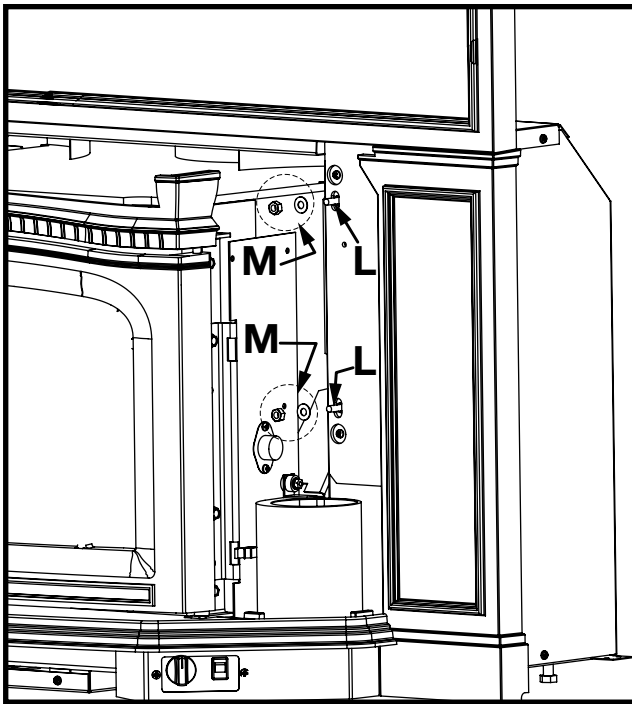

Figure 15: Install surround to firebox.
6. Attach surround to firebox by angling the surround sides behind the ash shelf and in front of the mounting stud brackets. align the slots in the surround brackets with studs (L) then fasten with washers and nuts (M) on each side (Figure 15).